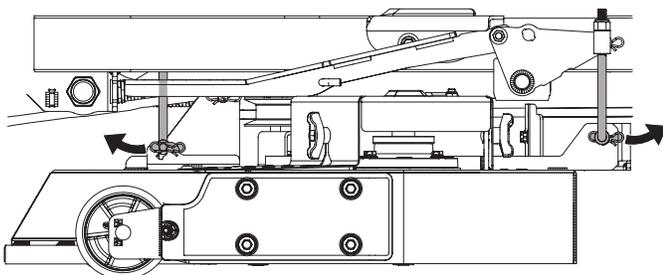

Figure 52
- Remove the bow-tie pin from the bottom clevis end of each deck height adjust rod. There is one at the front and one at the rear on each side of the deck. See Figure 52 (left side shown).